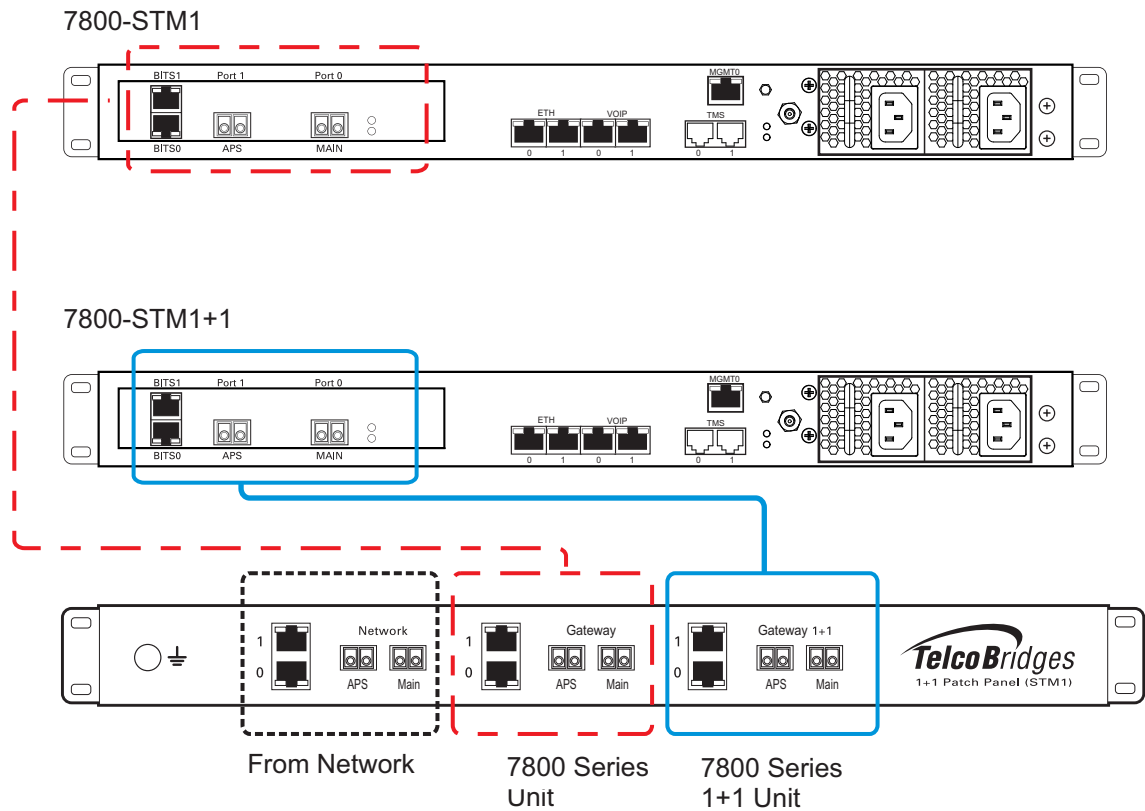

Figure 4.8 7800-STM1 and 7800-STM1 +1 connecting to the STM1 1+1 patch panel
1. Connect each OC3/STM1 line of the network section of the 1+1 patch panel to the remote equipment. See figure 4.8 on page 33.